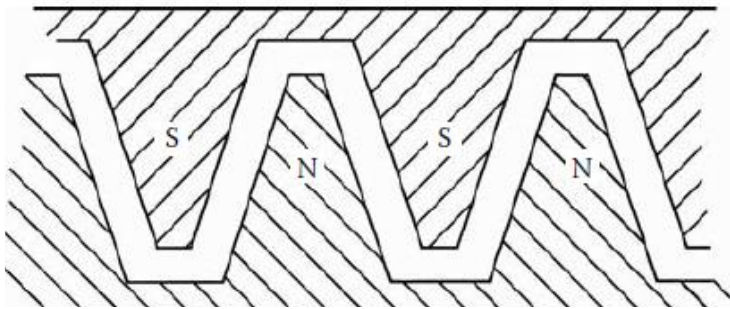

Fig. 2. Cross section of the claw pole stepper motor with PM.
- Developed view in Figure 2 shows the same number of teeth and number of magnet poles
- Thus, a **torque will be exerted on the rotor** to align its **south poles with the teeth of the north lamination** and its north poles with the teeth of the south lamination, as presented in Figure 2.